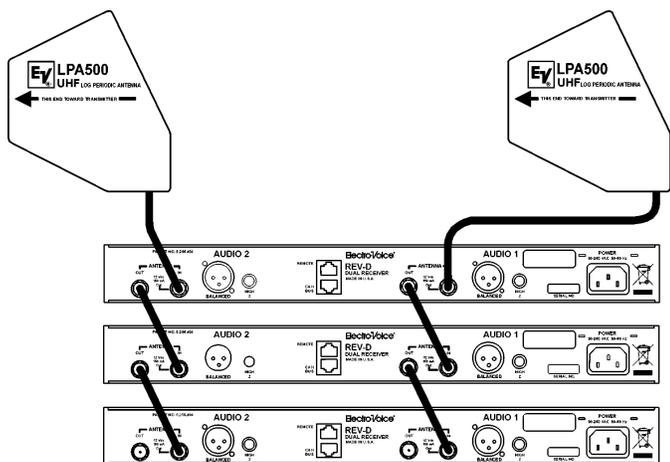

Figure 3
3. Figure 3 shows the connection diagram for 3 REV-DUAL units.